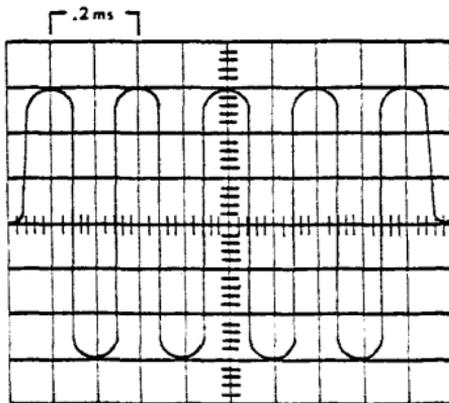

FIGURE 6
- The wave form (as viewed on the scope) should appear as in Figure 6. The distance between the peaks must be $.2\text{ms}$.